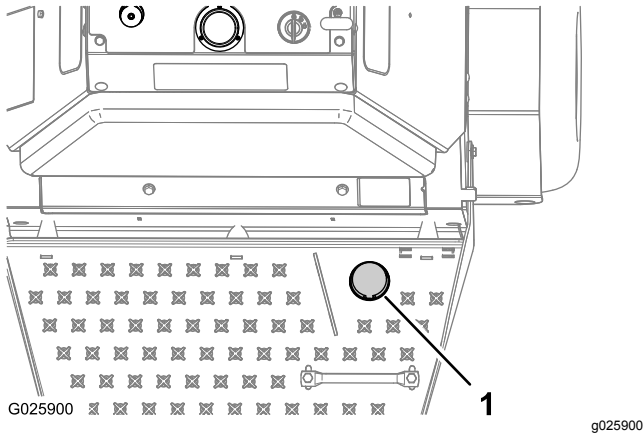

Figure 18
2. Step on the tine-elevation switch to lower the tines (Figure 18).
3. Stand on the switch and move the motion-control levers forward to aerate (Figure 18).
To raise the tines, remove your foot from the tine-elevation switch (Figure 18).